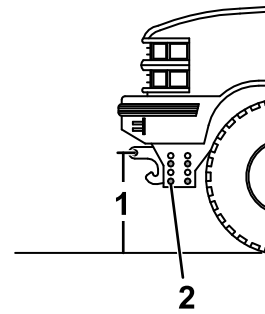

Figure 23
- Measure the distance from the ground to the coupler spring-pin holes on the undercarriage pushbeam (Figure 23). The measurement should match the height listed for your plow in Specifications (page 18).
- If the pushbeam is not at the correct height, remove the fasteners securing the pushbeam to the undercarriage (Figure 23).